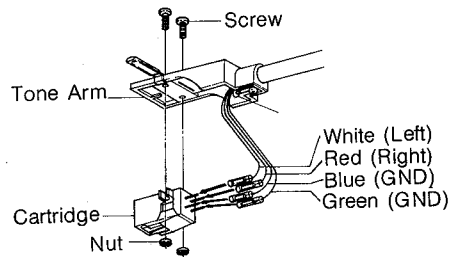

FIG. 16
■ **To Replace Cartridge (Refer to Fig. 16)**
1. Remove cartridge from headshell by removing two screws and disconnecting four leads from cartridge, as shown in Fig. 16.
3. Connect four leads of identical colors, as shown in Fig. 16.